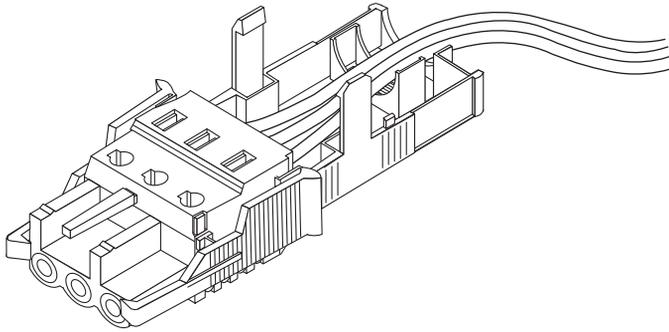

FIGURE 2-10 Routing the Wires Out of the Bottom Portion of the Strain Relief Housing
2. Route the three wires coming from the DC power source through the opening at the end of the bottom portion of the strain relief housing as shown in FIGURE 2-10.